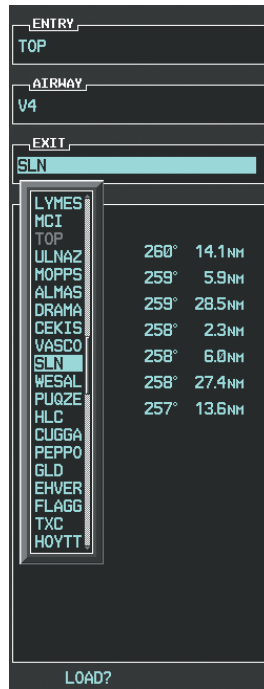

Figure 5-119 List of Available Exits for V4
h) Press the **ENT** Key. The list of available exits for V4 is now displayed as in Figure 5-119.
- i) If necessary, turn either **FMS** Knob to select the desired exit. In this case Salina VOR (SLN) is selected as in Figure 5-119.